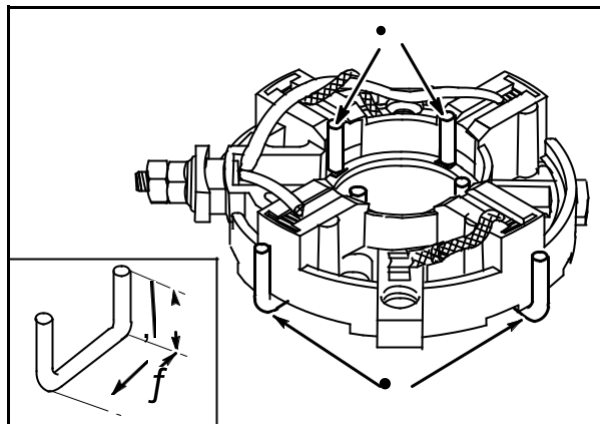

Fig. 22
End caps with radial compression type springs require 4 brush retainers (1) to hold brushes clear of armature commutator, **Fig. 22**.
Brush retainers can be made from Part #26634 control wire or similar material. The retainer is U shaped, with two legs $1/2''$ (13 mm) high (2), $3/4''$ (19 mm) long (3), **Fig. 22, inset.**